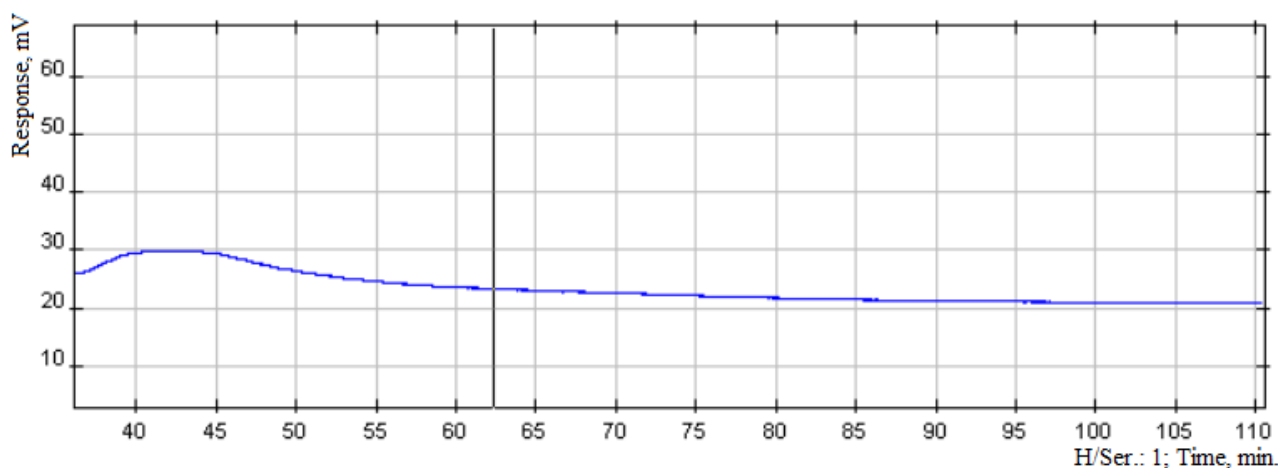

Fig. 42: Selecting the Analysis Section
1. While recording the chromatogram, press the N key. A vertical pointer tied to the position of the cursor appears in the chromatogram (Fig. 42).